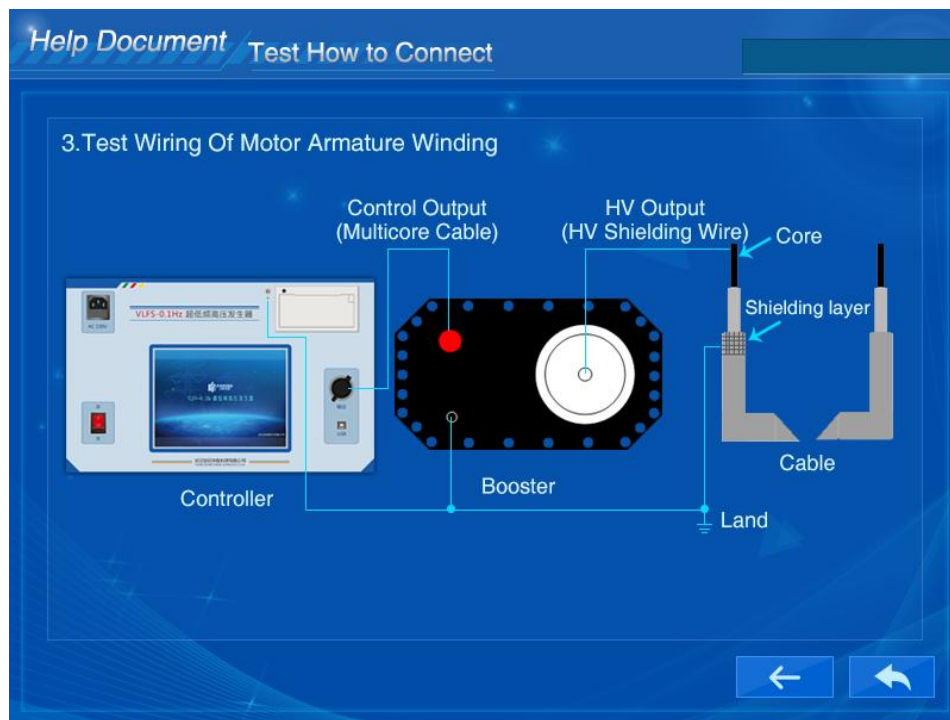

Figure 15 Wiring Diagram for Single-phase Cable Test
6. Test wiring: Connect the test equipment and the test cable with the special connecting wire attached with the machine according to the method shown in Figure 15. After